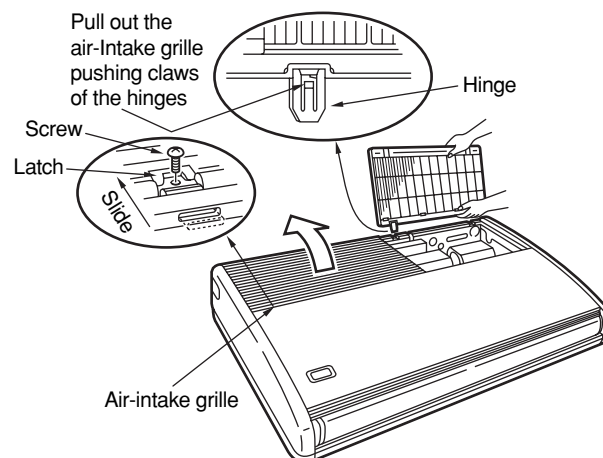
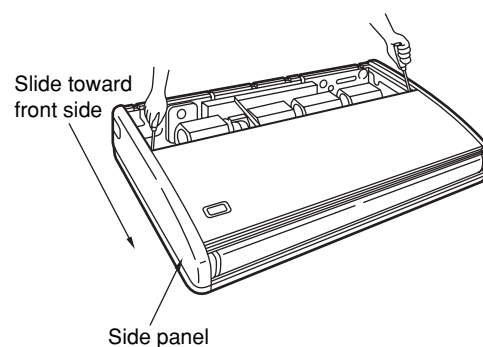

Fig. 3-43
Fig. 3-44
- (5) Before suspending the indoor unit, remove the 2 screws on the latch of the air-intake grilles, open the grilles, and remove them by pushing the claws of the hinges as shown in Fig. 3-43. Then remove both side panels sliding them along the unit toward the front after removing the two screws which fix them. (Fig. 3-44)